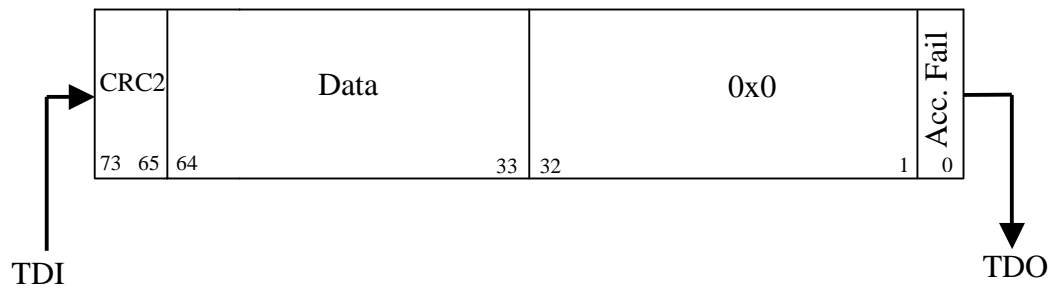

Figure 10: WISHBONE Scan Chain (data shifted out)
- CRC2 (Figure 10: WISHBONE Scan Chain (data shifted out)) is shifted out. It is calculated from the address and the R/W that were shifted in and data that is shifted out (data read from register) when read operation is in progress or from delayed CRC1 when write operation is in progress.